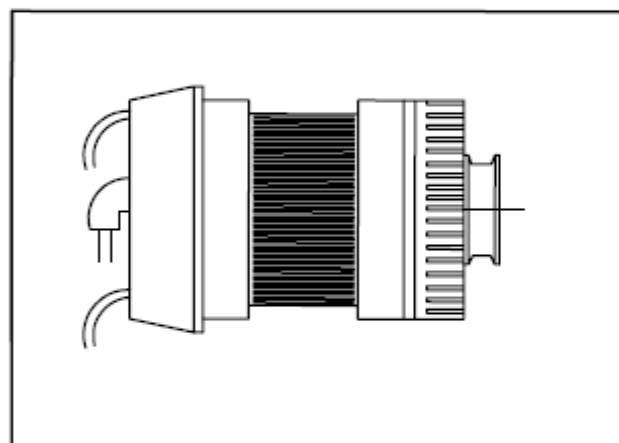

Fig.5-32
Alternador - Fig.5-32
5.56 ALTERNADOR (Fig. 5.32)